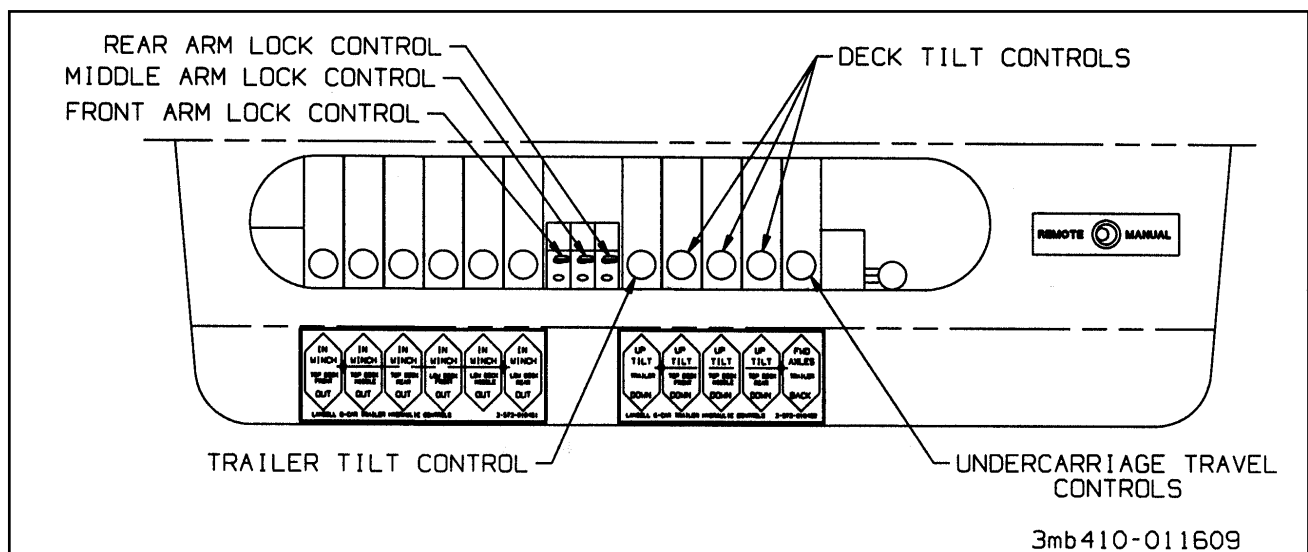
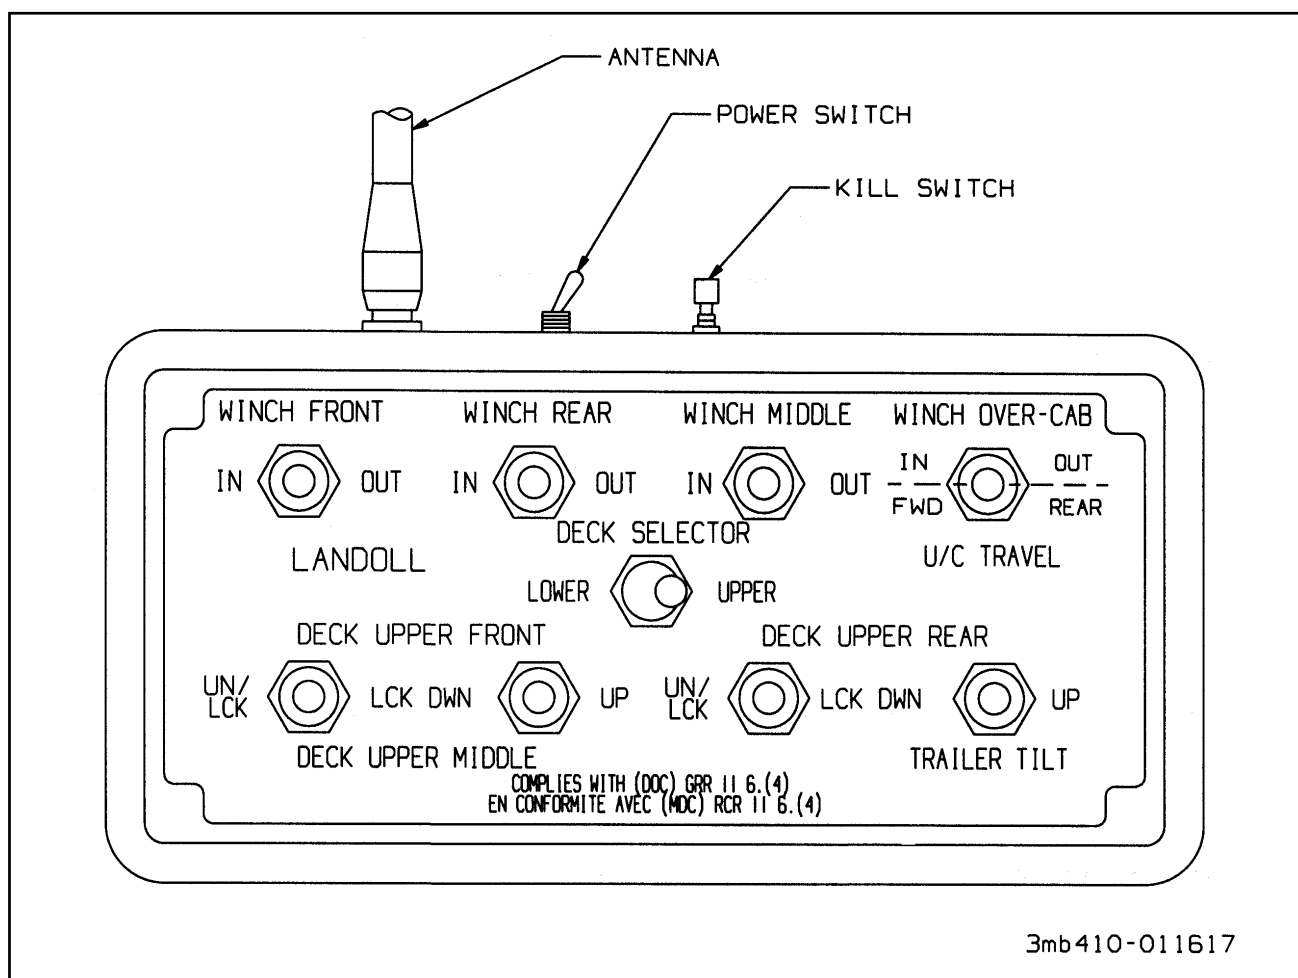

Figure 3-2 Hydraulic Control Levers
Figure 3-4 Remote Control
3-2.2 The king pin plate should be the same height as, or slightly lower than, the latch area of the fifth wheel plate of the tractor. If necessary, connect the tractor hydraulic lines. Use the **TRAILER TILT CONTROL** (See **Figure 3-2**) to raise or lower the kingpin plate sufficiently to allow proper coupling. Drain all air and moisture from the tractor air brake system in accordance with the tractor manufacturer's instructions.
3-5.1 While hydraulic power is operating, raise the front end of the semitrailer with the **TRAILER TILT CONTROL** (See **Figure 3-2**) until weight is off the landing gear. Raise landing gear. Secure each leg with a park stand retaining pin in fully retracted position before transporting.
- 3-9.1** For manual control operation, switch the toggle on the right end of the control panel to **"MANUAL"**. For remote control operation, switch the toggle on the right end of the control panel to **"REMOTE"** and refer to **Section 3-11** instructions. The **MANUAL LOCK CONTROLS** on the air valves must be in the lock position for remote operation of the air valves (See **Figure 3-2**).
3-10.2 The **WINCH HYDRAULIC CONTROLS** (See Figure 3-2) are located on the hydraulic control panel or the remote control (See Figure 3-4) if present. It is a three position control:
3-11.1 The **POWER SWITCH** is located on the top of the box and must be turned on for the the remote control to operate (**See Figure 3-4**)
3-12.1 Hold the **LOCK CONTROL** in the unlock position (See Figure 3-2) and joggle the **TRAILER TILT CONTROL** for that arm until it unlocks.